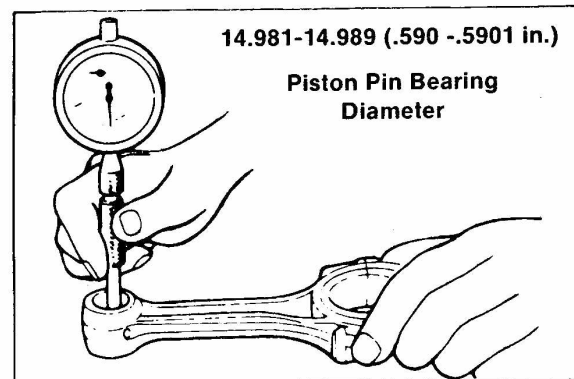

Figure 4-36
2. Measure the inside diameter of the connecting rod piston pin bearing. The diameter should be 14.989 — 14.981 mm (.5901 — .590 in.) See Fig. 4-36.